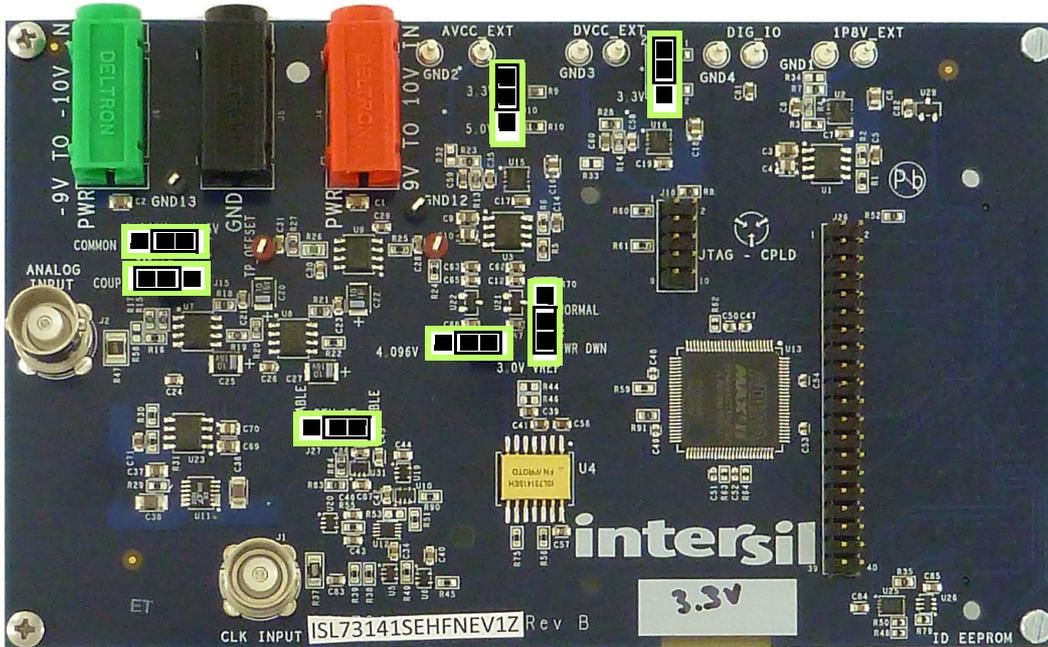
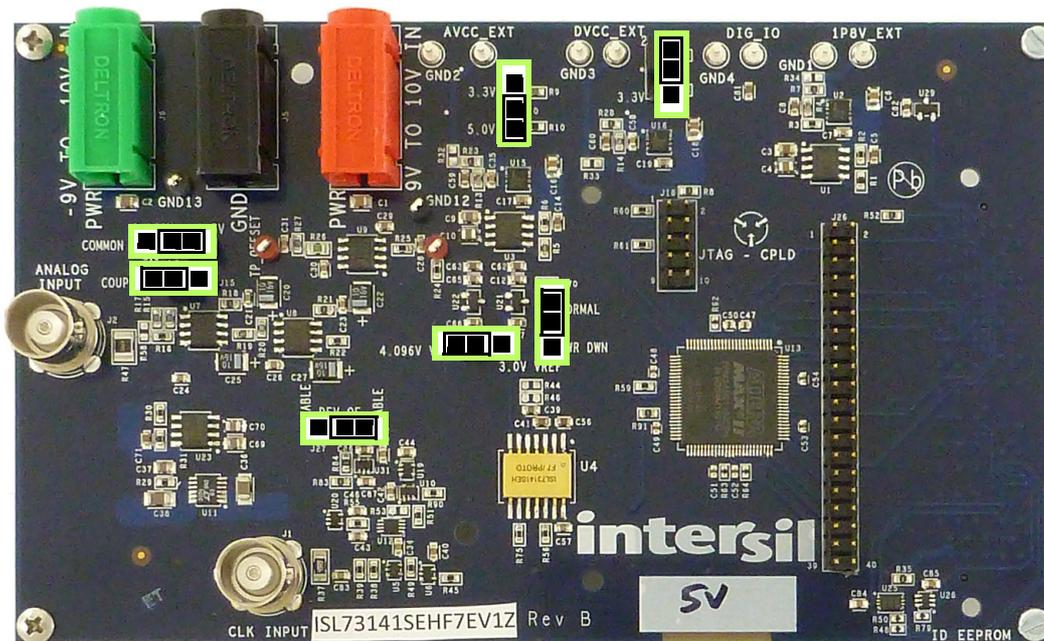

Figure 2. ISL73141SEHFNEV1Z Evaluation Board Jumper Location
Figure 3. ISL73141SEHF7EV1Z Evaluation Board Jumper Location
Figure 2 shows the location and position of the jumpers on the ISL73141SEHFNEV1Z board (AVCC = 3.3V) and Figure 3 shows the jumper location and position for the ISL73141SEHF7EV1Z (AVCC = 5.0V). The default positions of the jumpers select the use of the on-board LDOs to drive the various power supply domains.
3. Make sure the jumpers on the ADC evaluation board are in place as shown in Figure 2 or Figure 3.